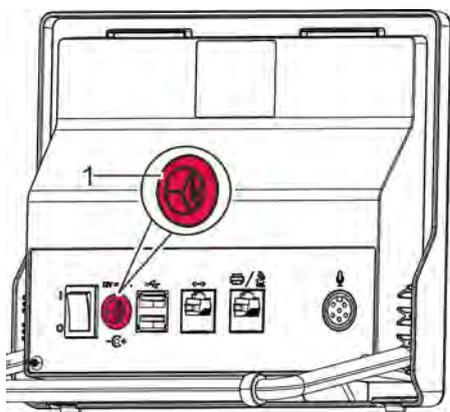

Fig. 43: Removing the power supply unit cable
3. ➔ Pull the power supply unit cable from the mains connection (Fig. 43/1).